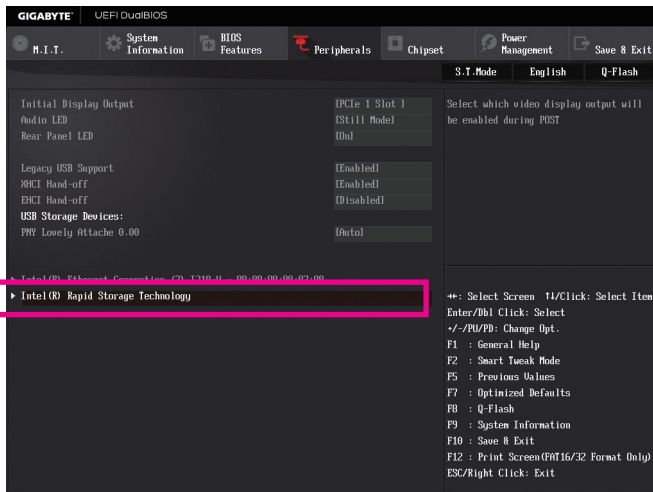

Figure 3
After the system reboot, enter BIOS Setup again. Then enter the **Peripherals**/Intel(R) Rapid Storage Technology sub-menu (Figure 3).